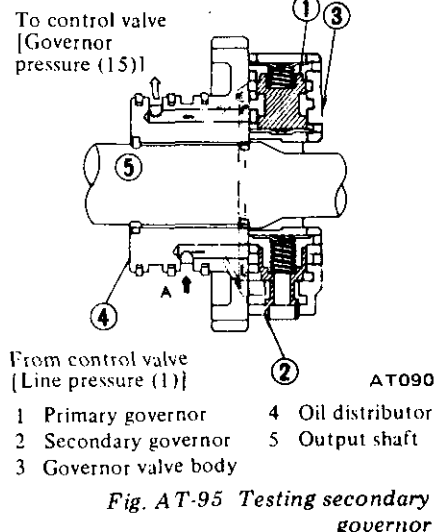

Fig. AT-95 Testing secondary governor
2. To disassemble secondary governor, remove spring seat, spring and secondary governor valve from valve body in that order as shown in Figure AT-95.